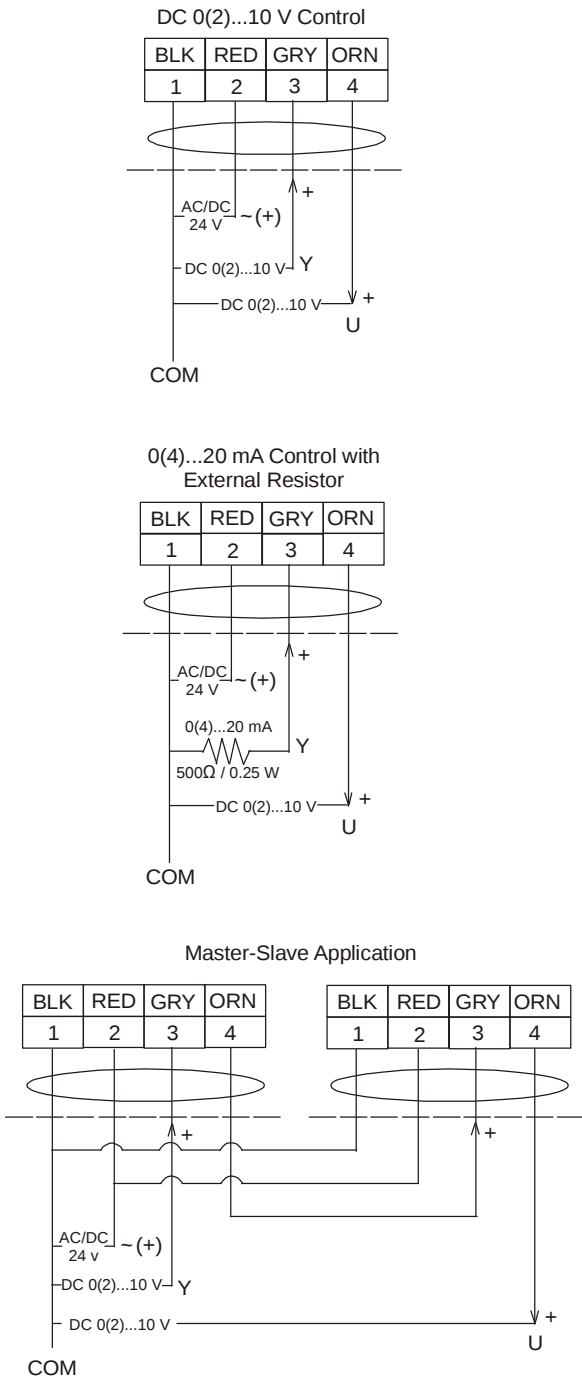
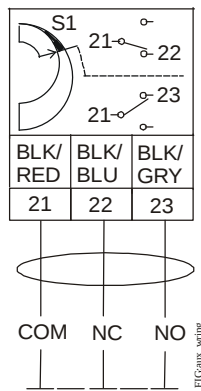

Figure 9: Control Wiring Diagrams
Figure 11: Auxiliary Switch Wiring Diagram
See Figure 9, Figure 10, and Figure 11 to wire the applicable M9203-GGx-2(Z) Series model